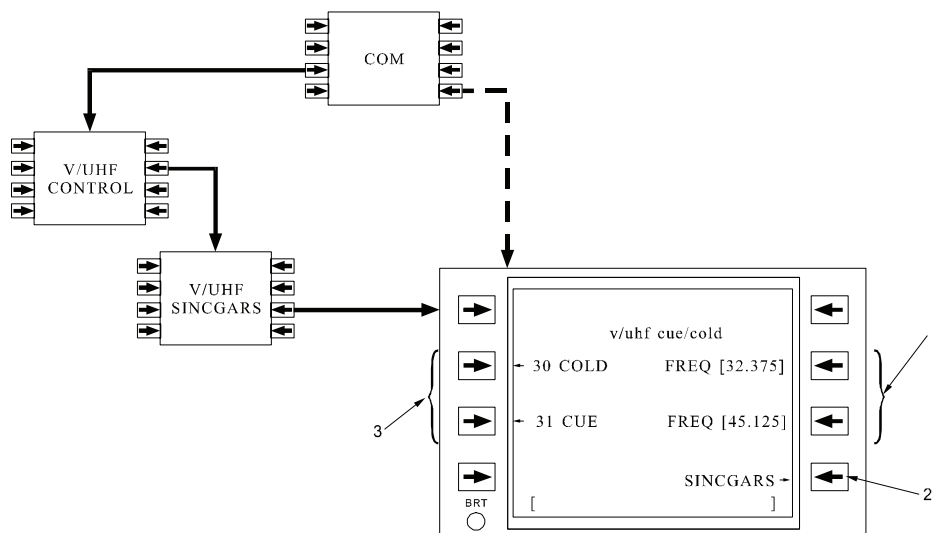

Figure 3B-128. Cue/Cold Page Access
(3) *Head-Up Communication Radio Data.* The FDS-255 provides the pilot heads up display of the V/UHF communication radio data on the Flight Display Free Format Line (FFL) as shown in Figure 3B-129 and Table 3B-93. The current tuned callsign and frequency are displayed in green on the left side of the FFL. The previous tuned callsign and frequency are displayed in cyan on the right side of the FFL. An external push button (quicktune push button) located on the pilot and copilot control yokes, is dedicated for remote communication radio frequency control.